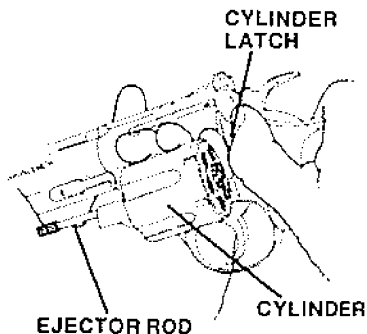

FIGURE 2-OPENING REVOLVER
2. Open revolver by pulling cylinder latch to the rear and pushing cylinder out to the left (See Figure 2). Check each of six chambers to ensure they are clean and free from accumulated oil. (Clean if necessary).
2. Open revolver by pulling cylinder latch to the rear and pushing the cylinder out to the left of revolver (See Figure 2).
2. Open the cylinder as previously described (See Figure 2).